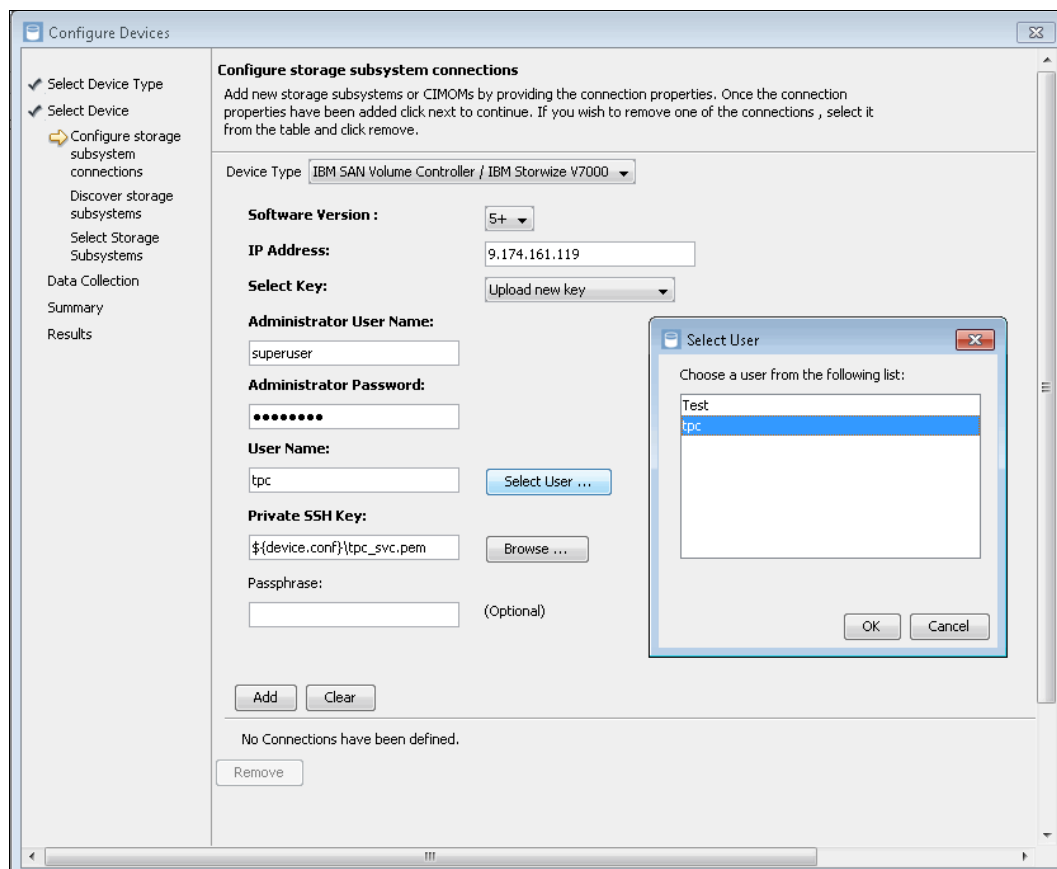

Figure 9-33 Configure device in Tivoli Storage Productivity Center
4. Enter the details of your IBM Storwize V5000 in Tivoli Storage Productivity Center, as shown in Figure 9-33.